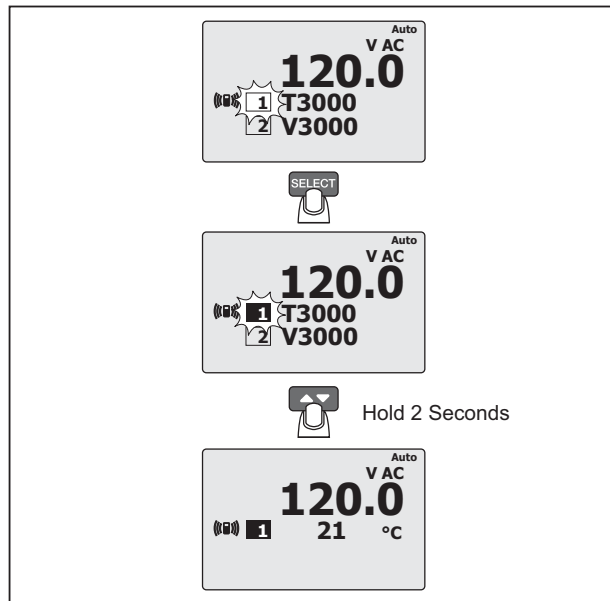

Figure 1. Module Binding Procedure
At the end of the discovery procedure, all discovered modules shown in the display have a black number on a grey background. See Figure 1. This shows the modules to which the Product is bound. Although the display can only show three modules, the Product can discover and temporarily bind to a maximum of 10 modules.
2. Push **SELECT**. The number of the selected module will change to a grey number on a black background. See Figure 1.